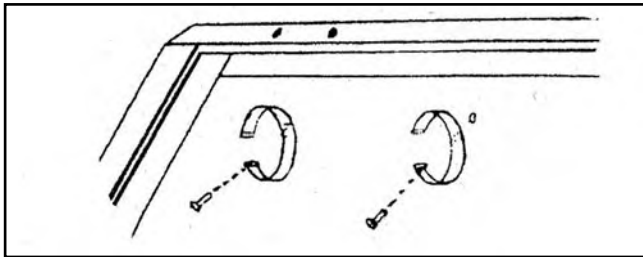

Figure 1. Lamp holder.
1. Install the two lamp holders with the two screws (**Figure 1**).